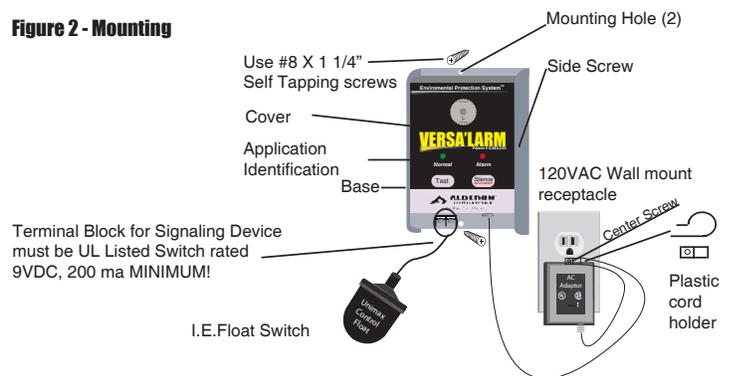

Figure 3A - Installing Field Wiring for Auxillary Contacts
3. If Auxiliary Contacts are used continue, else go to step 4. Remove cover from base and remove 1/2" electrical knockout from base. Use 16 - 2 AWG stranded wire - make sure there is at least 6" of wire inside of enclosure. Install a 1/2" strain relief with jam nut. Connect wires for required application using wire nuts. Caution! - When installing wires, route all wires away from sharp objects & internal components. See figures 3A & 3B.